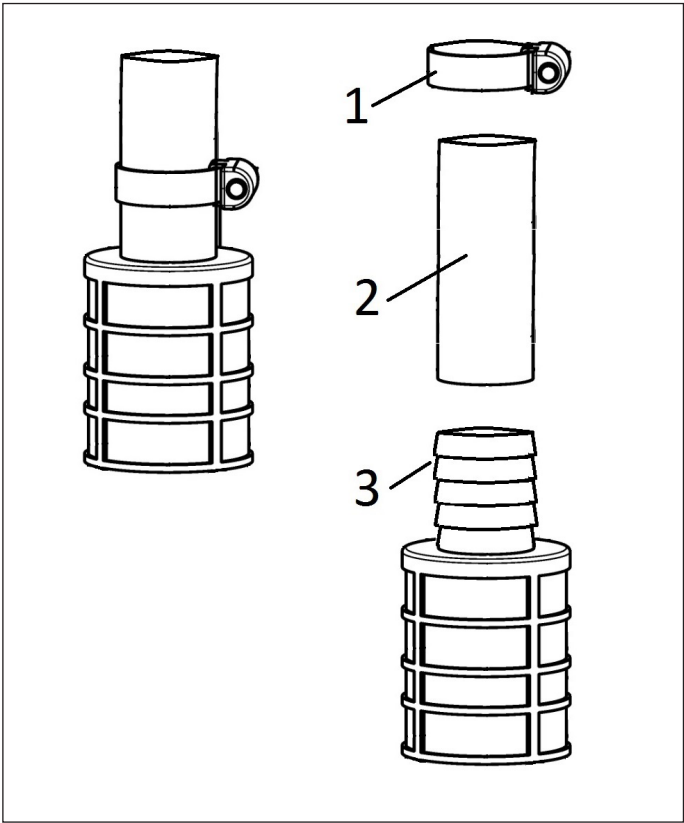

Fig. 8: Suction strainer FA 016.0303
When changing the suction strainer proceed as follows (see fig. 8):
- 1. Release the hose clamp (1) and pull the suction strainer (3) from the suction hose (2).
- 2. Clean the suction strainer (3) with cleaning solvent or diesel fuel or replace it if damaged (Order No. FA 016.0303) and dispose of the used part in accordance with the environmental requirements, waste code: OIL FILTER 16 01 07.
- 3. Attach the suction strainer (3) to the suction hose (2) according to Fig. 8 and secure it with the hose clamp (1).